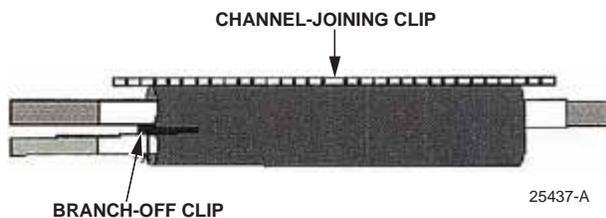

Figure 9
28. Place the channel-joining clip in the center of the sleeve rail to hold the sleeve in place. Slide a channel over the rail from each end of the sleeve. The channels should equally cover the channel-joining clip, and should align evenly over the edges of the sleeve. Refer to Figure 9.